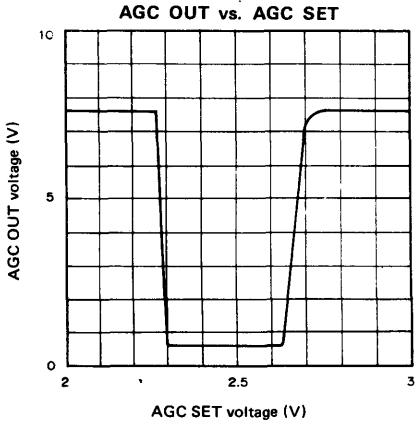

Fig. 1
Measure the voltage of the AGC output voltage pin (6) when the E4 (AGC SET) voltage is varied from 2 to 3V. (Fig. 1)